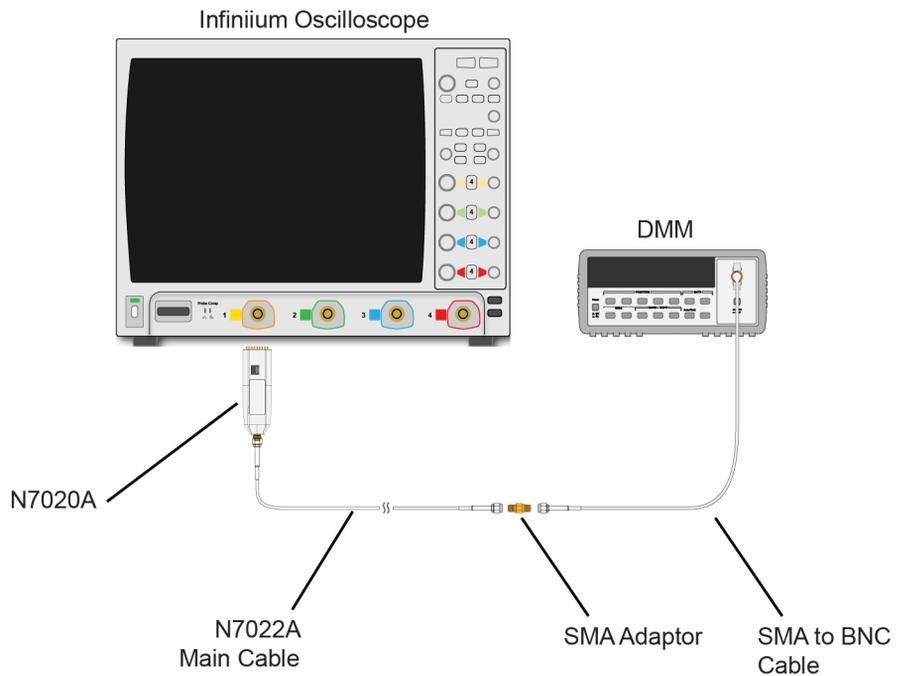

Figure 27 Test Setup
- 1 Connect the equipment as shown in Figure 27.